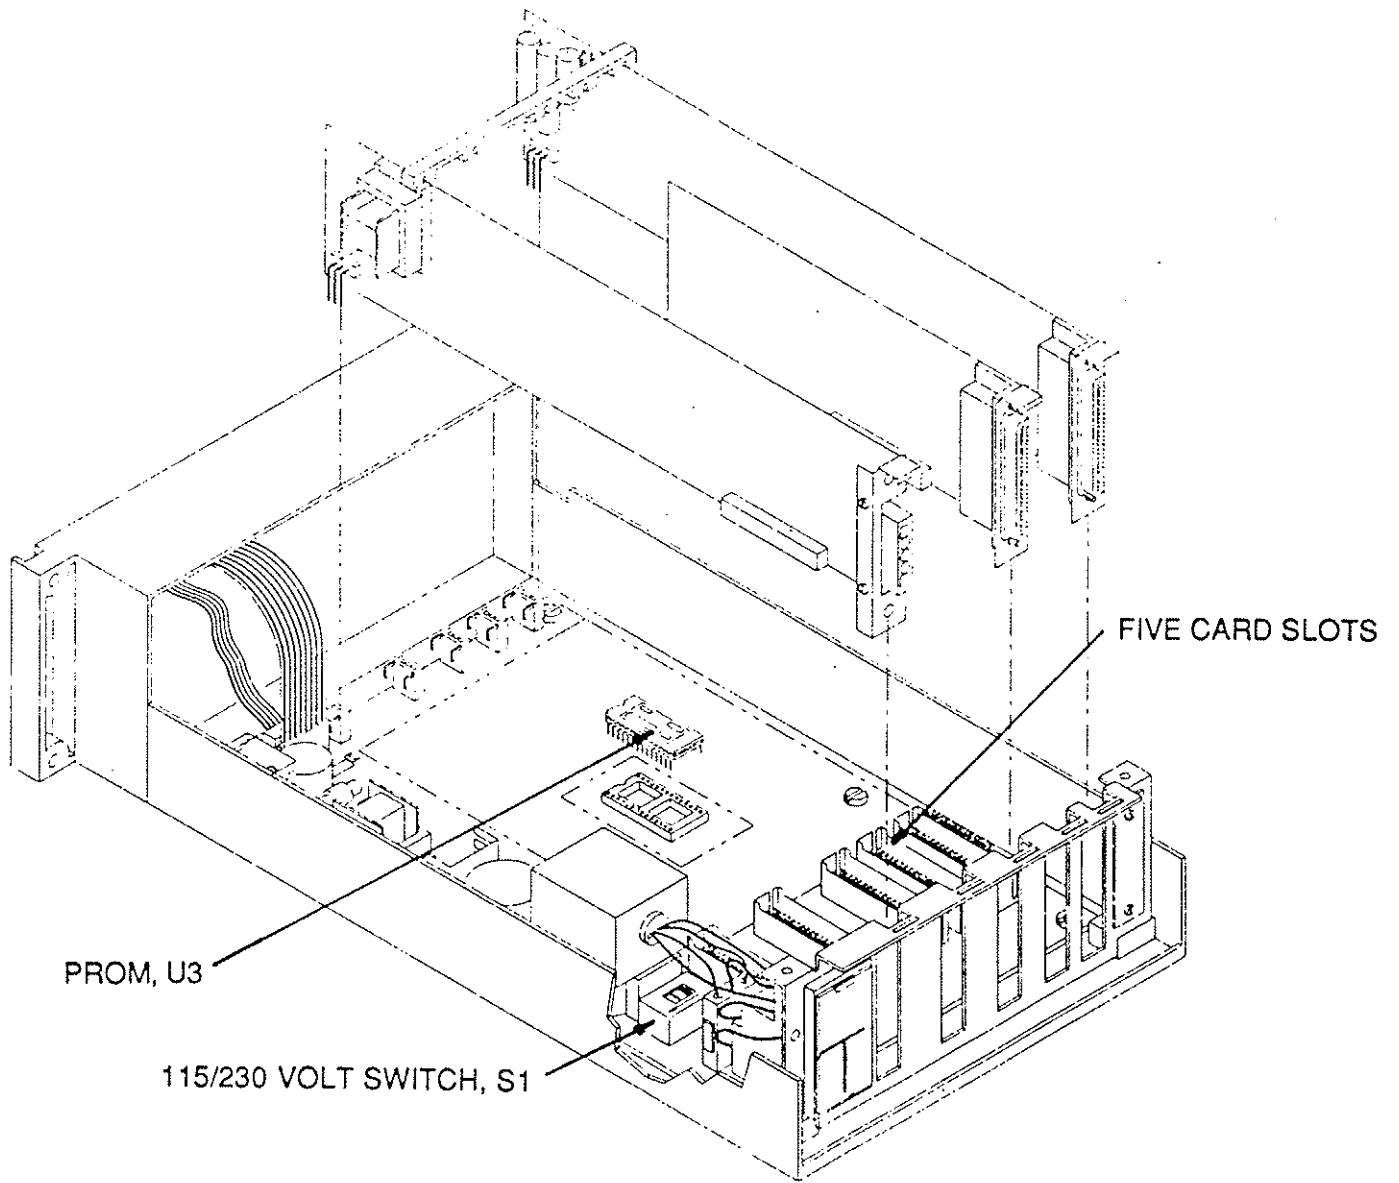

Figure 2-2. Installing the Option Boards and the Spacer/Retainer.
- 3 Install the optional printed circuit boards by plugging them into any or all of the five board slots as shown in Figure 2-2. Although the boards can be inserted in any slot, Varian recommends that high-profile boards (those whose components are greater than 3/4 inch tall) are plugged into the three more widely spaced slots. This will allow installation of a full complement of boards as well as make future upgrades easy.
- 5 If more than one full-length board is plugged in, press the printed circuit board spacer/retainer onto the top edge of the boards as shown in Figure 2-2. This will prevent the boards from touching one another and will hold them securely in the unit when the cover is in place. The spacer is not to be used if only one full-length board is plugged in.